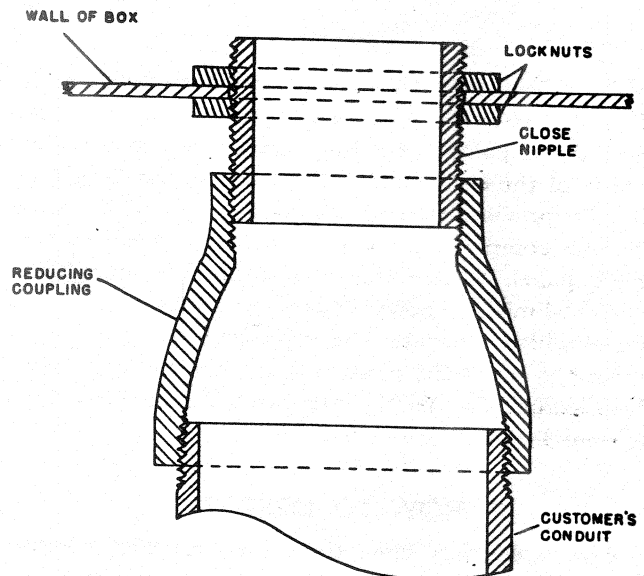

Fig. 27. Section of reducing coupling
5. Use a reducing coupling to adapt the knockout opening to the next larger size of conduit, Fig. 27.